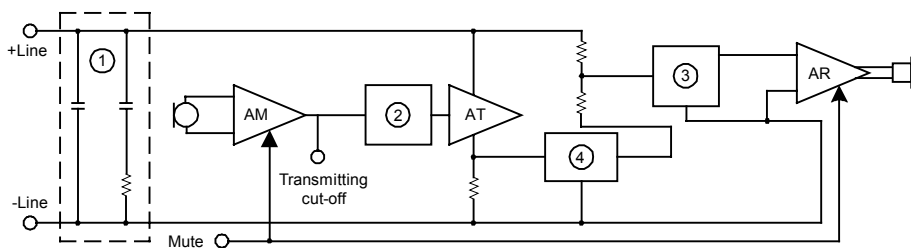

Figure 4. Block interconnections
In fig. 4 ①②③ and ④ are RC-links with the following functions: